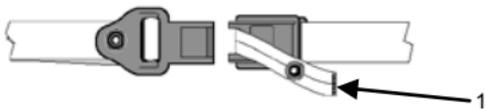

Figure 16. Quick-Release Lanyard.
2. Pull upward on quick-release lanyards (Figure 16, Item 1) to disengage the buckle and let the pack fall away.